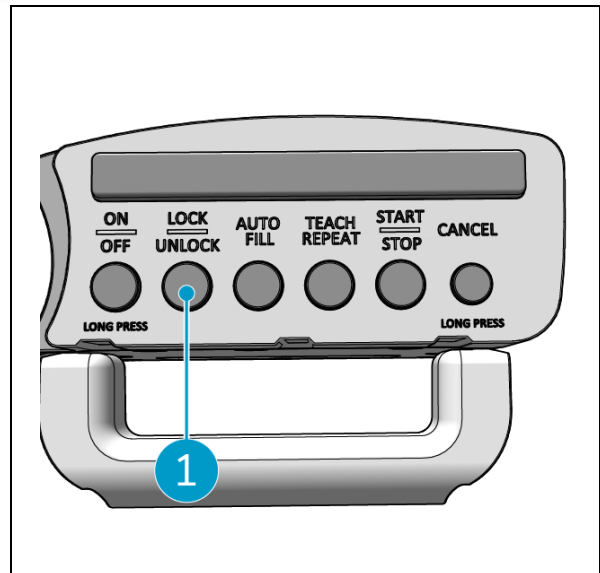

Figure 19
2. Press the Lock button (Figure 19, pos. 1) on the handle controller. The light will be blue to confirm that the wheels of the main unit of the i-walk are locked.